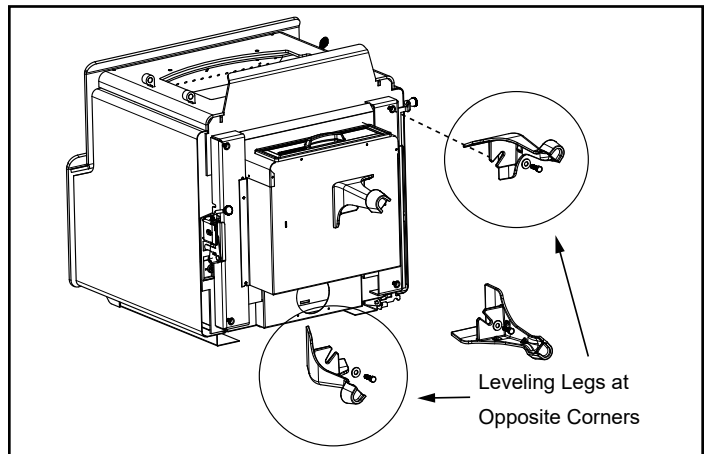

Figure 21.2
4. Install legs onto leg brackets making sure the legs are up against the bracket and secure with bolts and washers using a 3/8 open end wrench (**Figure 21.2**).
5. Install leveling bolts into 2 legs; these leveling legs should be in opposite corners (**Figure 21.2**).